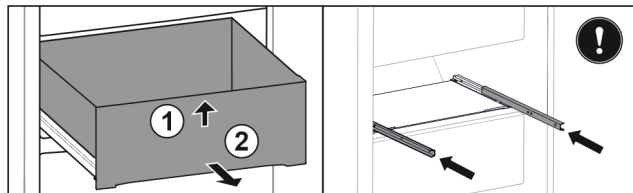

Fig. 111
- ▶ Lift up drawer at the front. Fig. 111 (1)
- ▶ Remove drawer to the front. Fig. 111 (2)